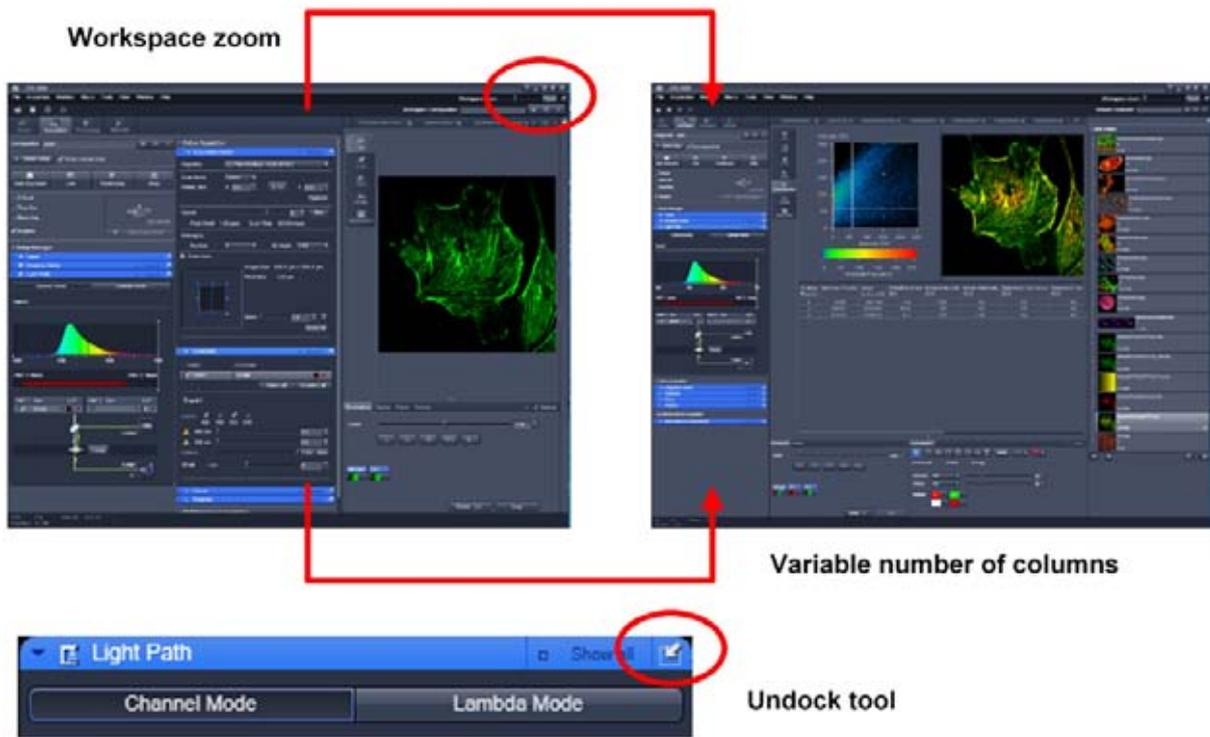

Fig. 7 ZEN Window Layout configuration
- The user can add more columns for tools to the **Left Tool Area** or detach individual tools to position them anywhere on the monitor. To add a column, drag a tool group by the title bar (e.g., Online Acquisition) to the right and a new tool column automatically opens. Alternatively use the context menu "move toolgroup to next column". To detach a tool, click on the little icon on the very right end of the blue tool header bar (Fig. 7).
- Another unique feature in Imaging Software is the scalable ZEN interface. This **Workspace Zoom** allows adjustment of the **ZEN 2009** window size and fonts to the situational needs or your personal preferences (Fig. 7).